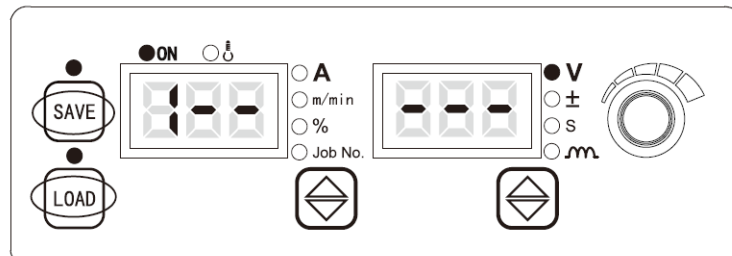

Figure 3-23 Setting a new password
- On the screen for setting a new password, the LED screen displays **1- - - -**. See Figure 3-23. Adjust the knob on the control panel of the welder and enter a new password character by character. Then, press the **LOAD**  button.